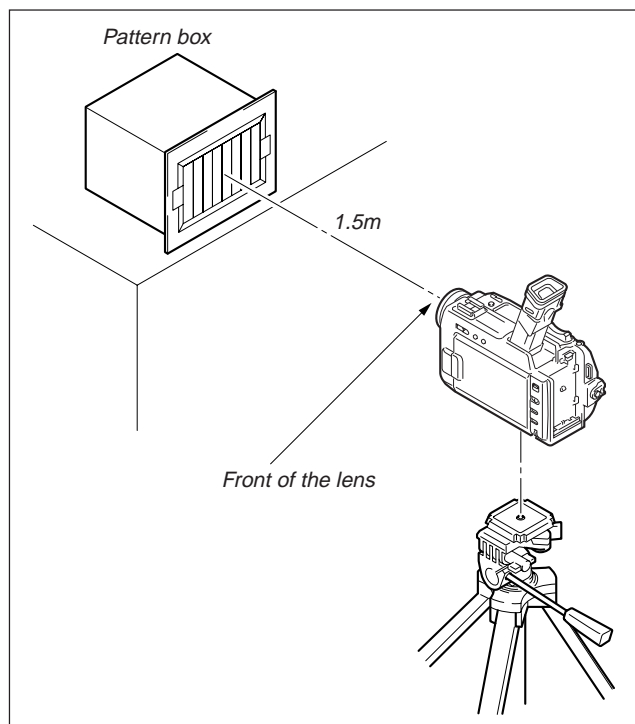

Fig. 5-1-2.
- 1) Connect the equipment for adjustments according to Fig. 5-1-2.